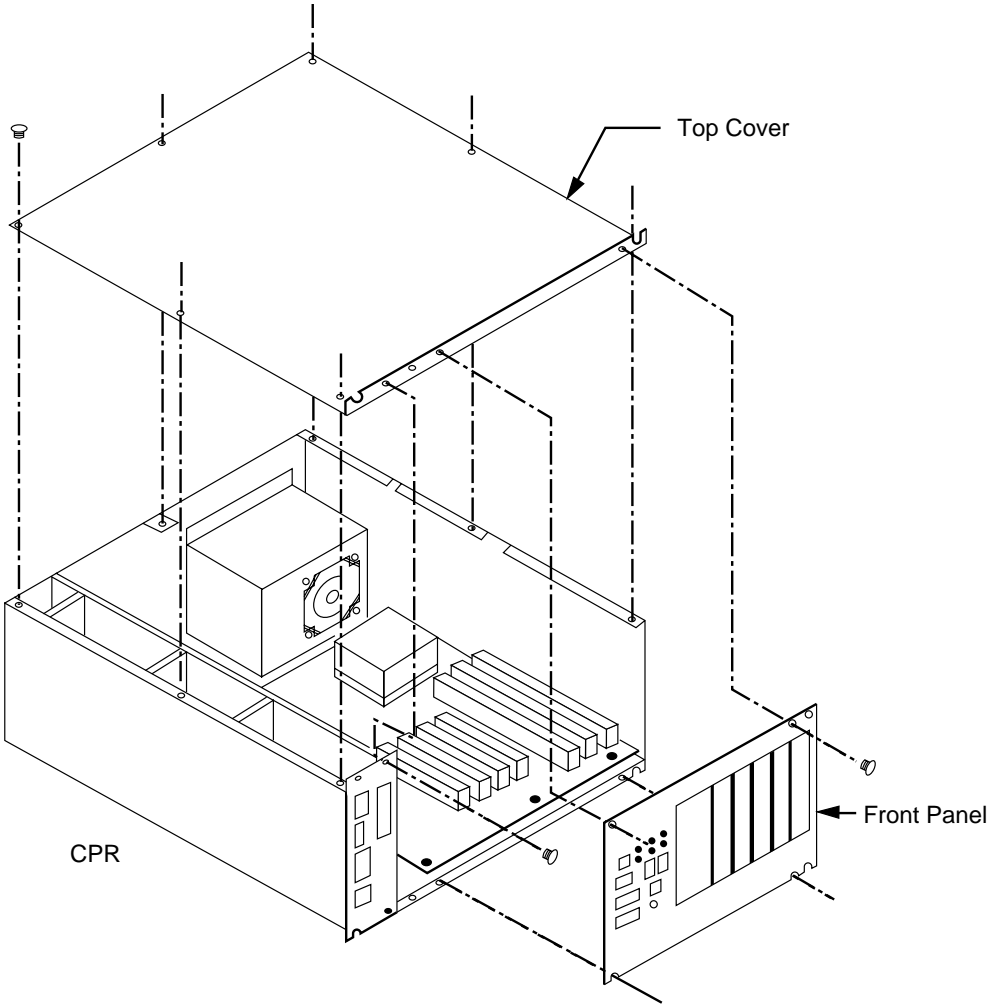

Figure 009-4 Removal of Front Panel and Top Cover from CPR
- 1. Using the Phillips Screwdriver, remove the 4 + 8 screws. Then, detach the front panel and top cover from the CPR. (Refer to Figure 009-4.)